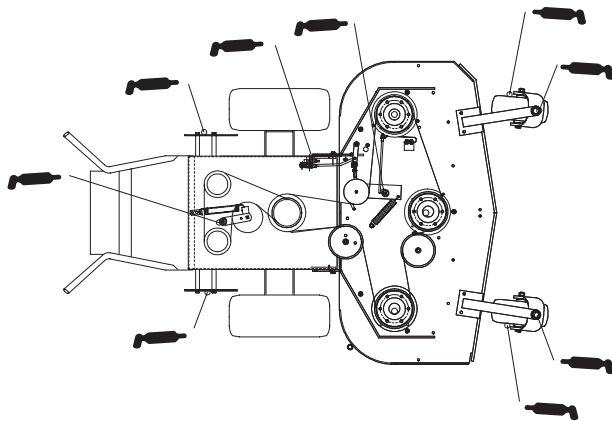

Figure 43
1. Lubricate the caster wheel bearings and front spindles every 8 operating hours (Fig. 43).
2. Lubricate the mower deck idler pivot, pump drive idler pivot and pump control every 40 operating hours (Fig. 43).
3. Lubricate the PTO engagement bellcrank every 100 operating hours (Fig. 43).